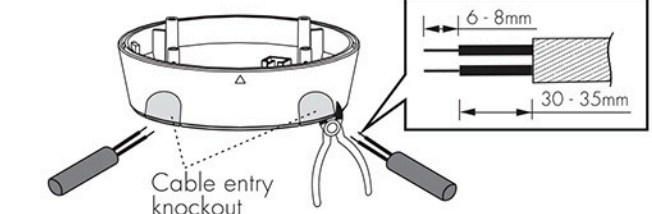

FIG. 10
- 3.3.2 To feed power cables through the side of junction box, please use the cutting pliers to break the side cable entry knockouts, then insert cables into junction box and feed through it. Please strip off 6 - 8mm of cable sheathing for wiring (See FIG.10).